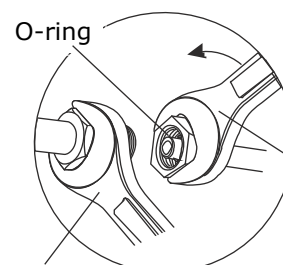
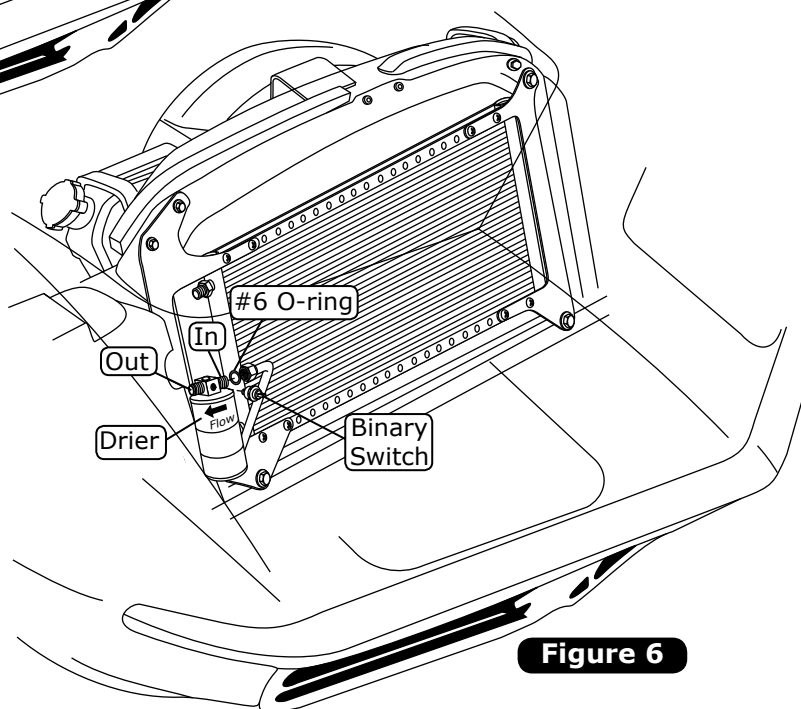
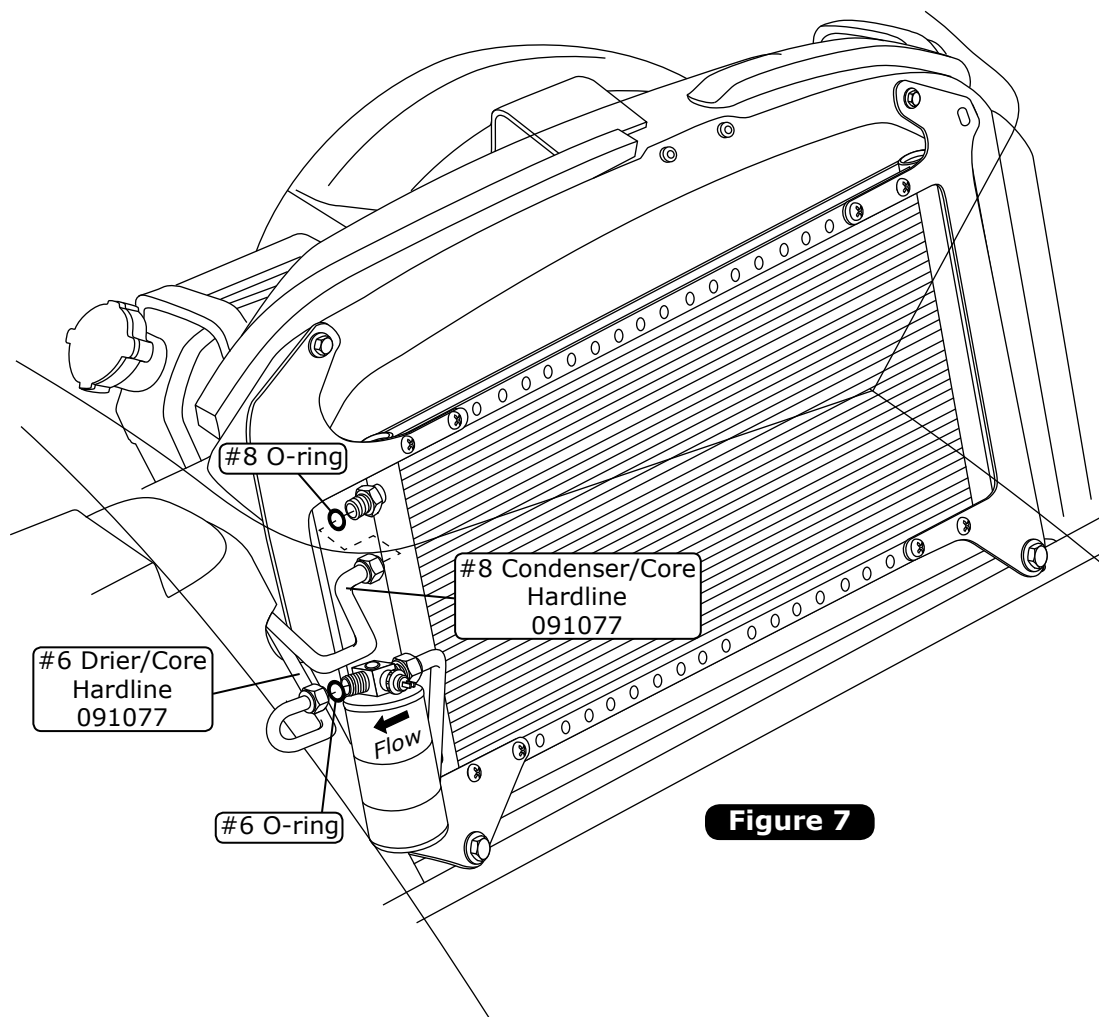

Figure 4
Figure 6
Figure 7
4. Lubricate a #6 O-ring, and connect the #6 condenser/drier hardline to the drier as shown in Figure 4, Page 7, and Figure 6, below. **NOTE:** Do not fully tighten the #6 hardline at this time. Hand tighten only.
5. Install the binary switch onto the drier as shown in Figure 6, below.
1. Lubricate a #8 O-ring and install the #8 condenser/core hardline as shown in Figure 4, Page 7, and Figure 7, below. **NOTE: Do not fully tighten the #8 hardline at this time. Hand tighten only.**
2. Lubricate a #6 O-ring and install the #6 drier/core hardline as shown in Figure 4, Page 7, and Figure 7, below. **NOTE: Do not fully tighten the #6 hardline at this time. Hand tighten only.**
3. Once all hardlines are properly attached, tighten the drier mounting bracket nut and all hardline connections as shown in Figure 4, Page 7.